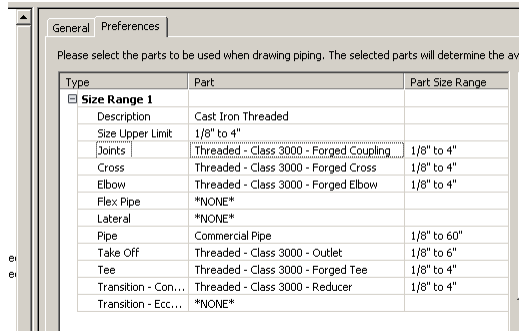

Figure 6.17
12. Repeat the process to assign the following parts from the *Cast Iron (US Imperial)* Catalog (see Figure 6.17):